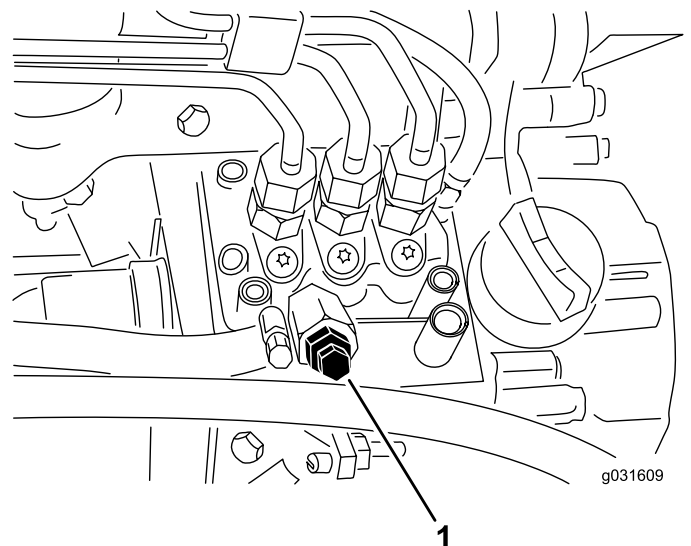

Figure 53
4. Open the air-bleed screw on the fuel-injection pump (Figure 53).